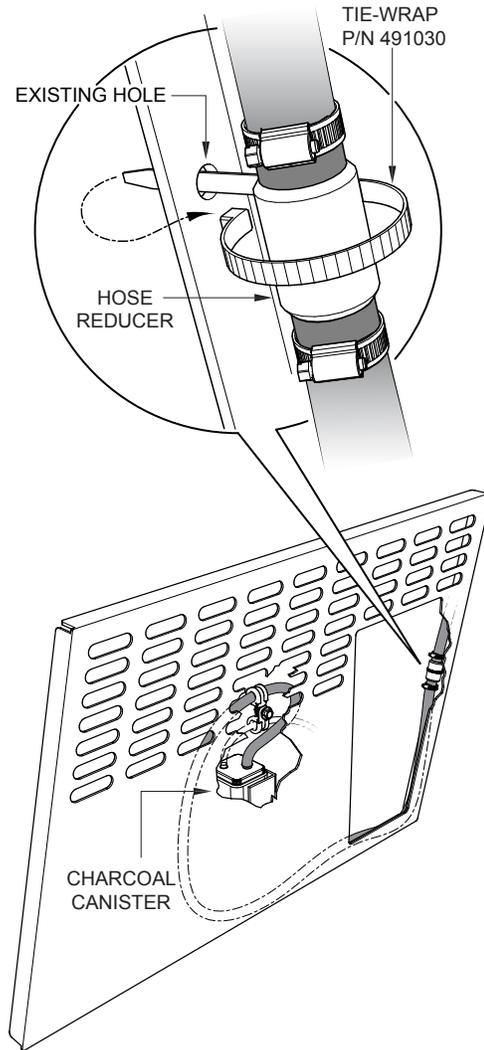

Figure 17. Securing Hose Reducer
- Using the supplied tie-wrap (P/N 491030) secure the 1/4" to 3/16" hose reducer to the buggy as shown in Figure 17.
The existing worm clamps (2) that secure the fuel filter to the fuel hose lines need to be replaced with tension type clamps (2). Replace existing worm clamps as shown in Figure 17.